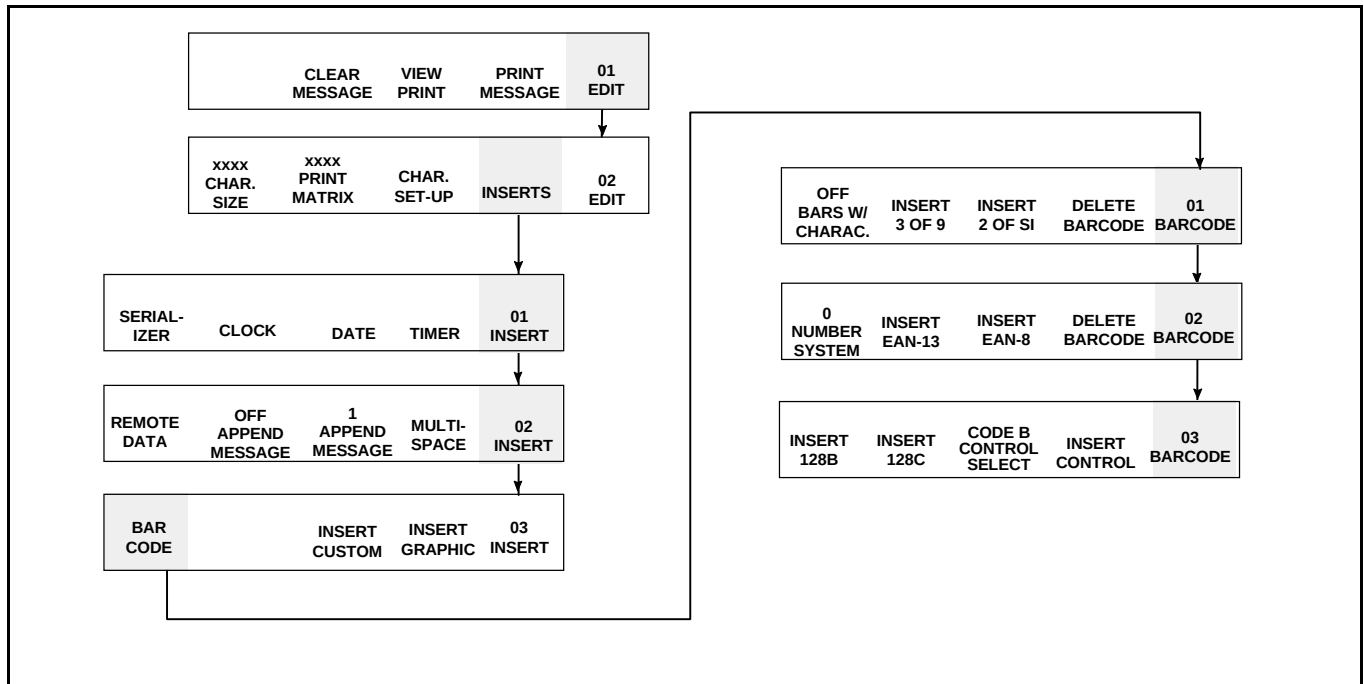

Figure 6-52. Accessing Frame <02 BARCODE>
2. Press **F1** to select <BAR CODE>. Then press **F5**. Frame <02 BARCODE> appears in the display. Refer to Figure 6-52.